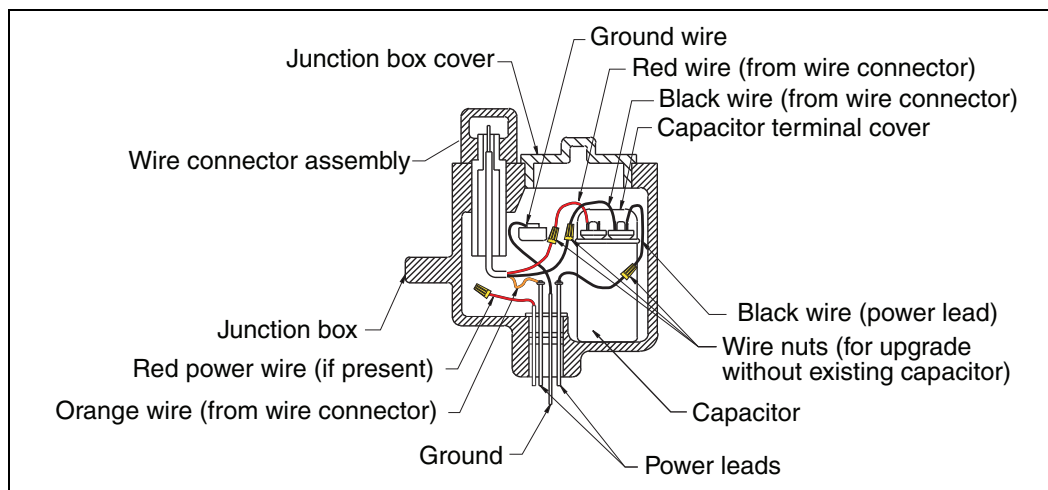

Figure 1. Installing Capacitor
6. Wire capacitor as shown in Figure 1 using capacitor terminal cover wires and wire nuts provided. Use red wire provided to connect red wire from wire connector assembly to one capacitor terminal. Use one black wire provided to connect black wire from the wire connector assembly to the opposite capacitor terminal. Use other black wire provided to connect the black power lead wire to the capacitor terminal already wired with black wire from wire connector assembly.